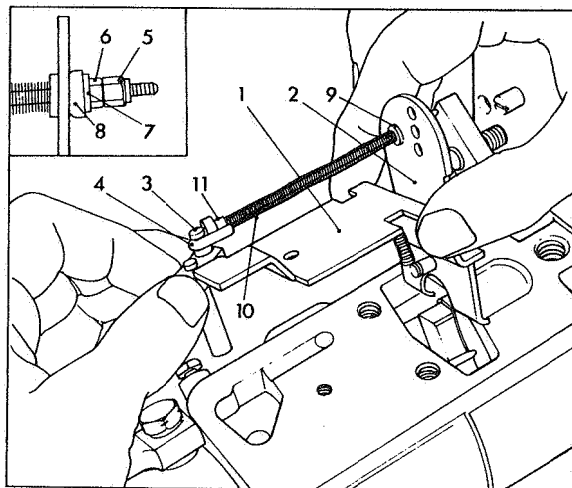

Fig 37 Removing governor linkage assembly
Press down tabs on tab washers (4). Remove control cover studs (5), tab washers, keep plate (6), bracket screw and tab washer (7 & 8). As shown in Fig 37 lift off as an assembly, the control